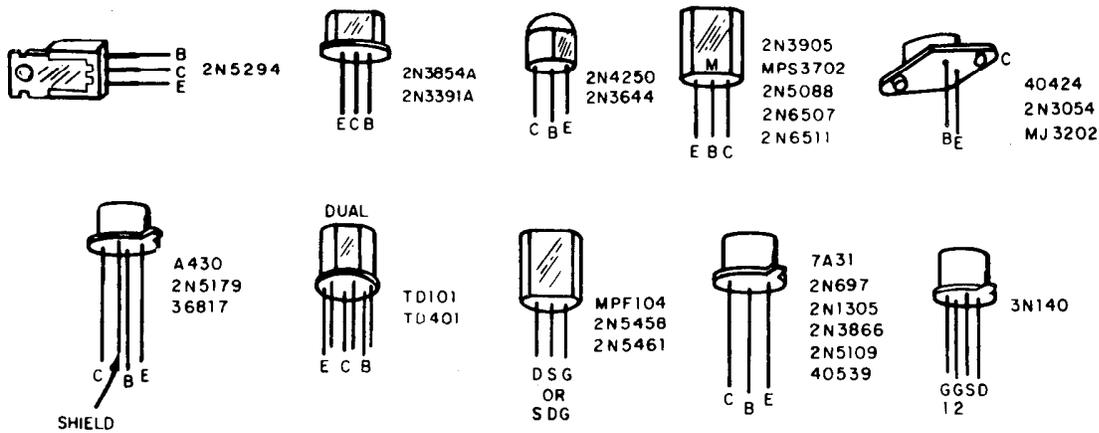

Figure 5-3. Transistor Lead Configuration
5.2.3. TRANSISTOR LEAD CONFIGURATION—Transistor lead configurations are shown in Figure 5-3.